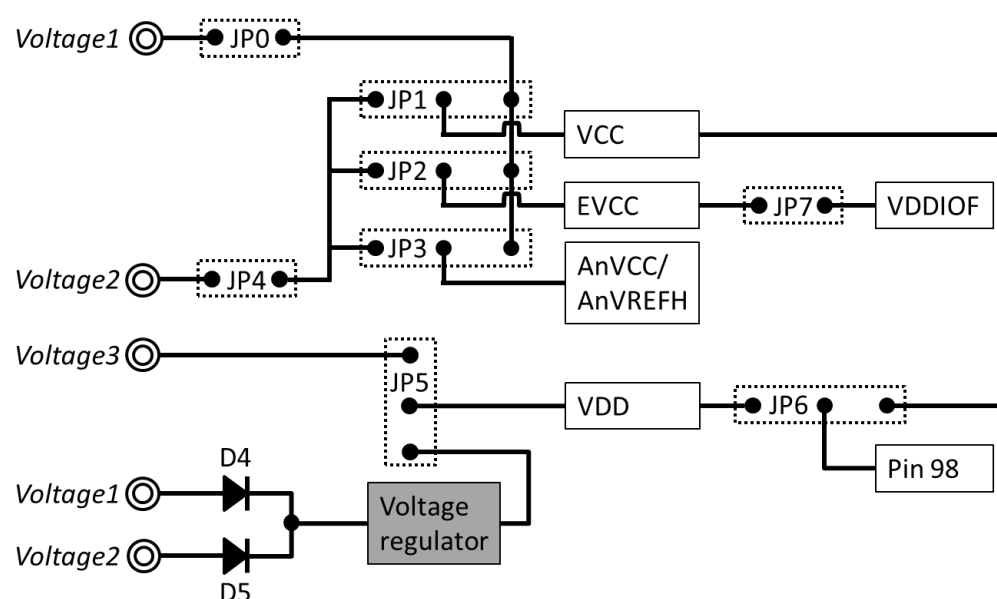

Figure 3 – Voltage Distribution on the PiggyBack Board
- The LED indicating availability of *Voltage3* is controlled by jumper JP8 (not shown in Figure 3, for details refer to **Chapter 9 'Schematic'**).